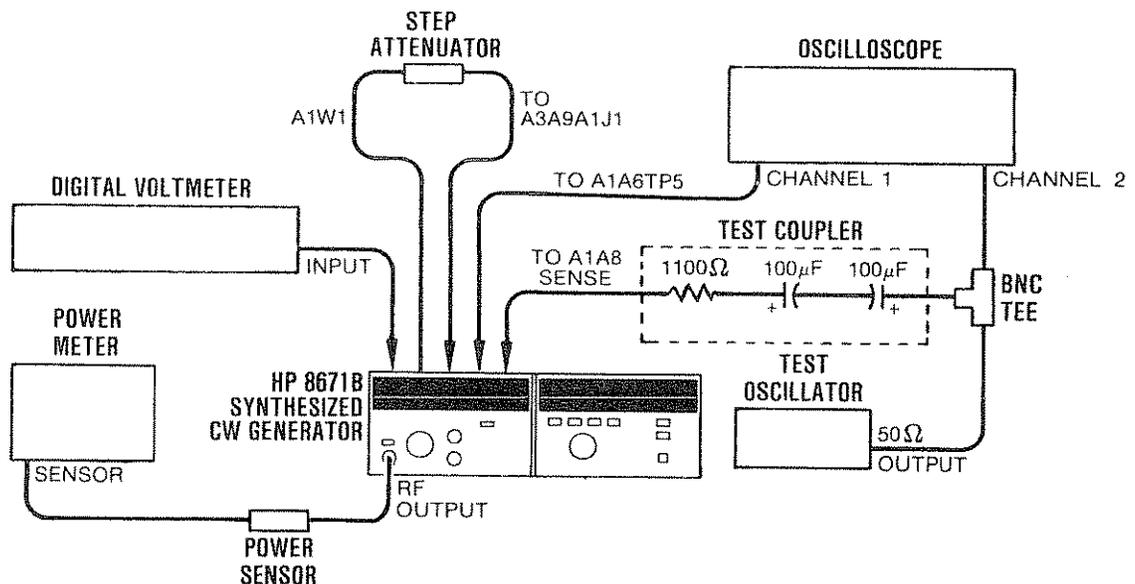

Figure 5-11. YTM Adjustment Test Setup
8. Disconnect A1W1 from directional coupler output at A3A9A1J1 (see Service Sheet B, Top View Assembly Locations). Connect the step attenuator between A3A9A1J1 and A1W1. Connect the remaining equipment as shown in Figure 5-11.